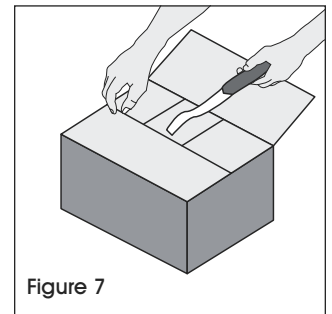

Figure 7
5. Fold and hold the box flaps closed and start inflation. (See Figure 7)